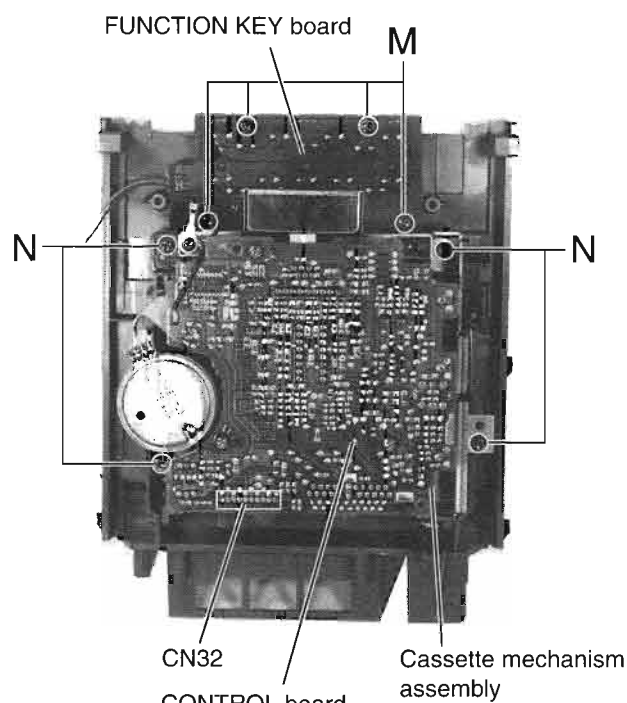

Fig.14
■ FUNCTION board (Refer to Fig. 14.)
■ Cassette mechanism assembly (Refer to Fig. 14 and 15.)